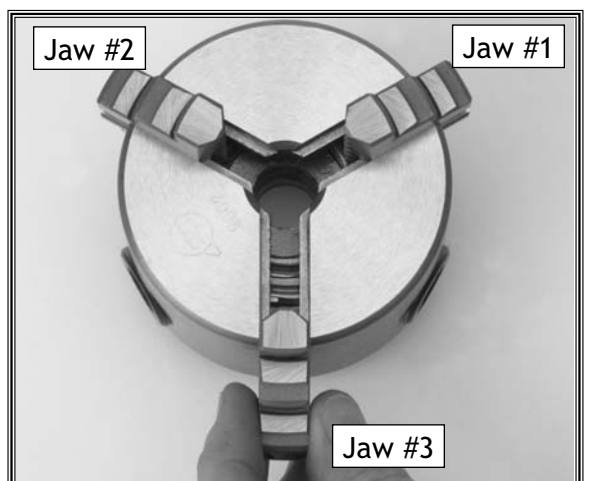

Figure 10. Lead thread coming in to view for jaw #3.
7. Moving in a counterclockwise direction, repeat **Step 6** on jaw #2 and #3 (**Figure 10**) until all three jaws come together at the center of the chuck.